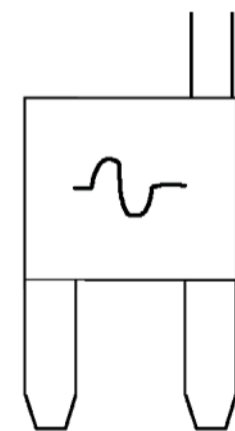
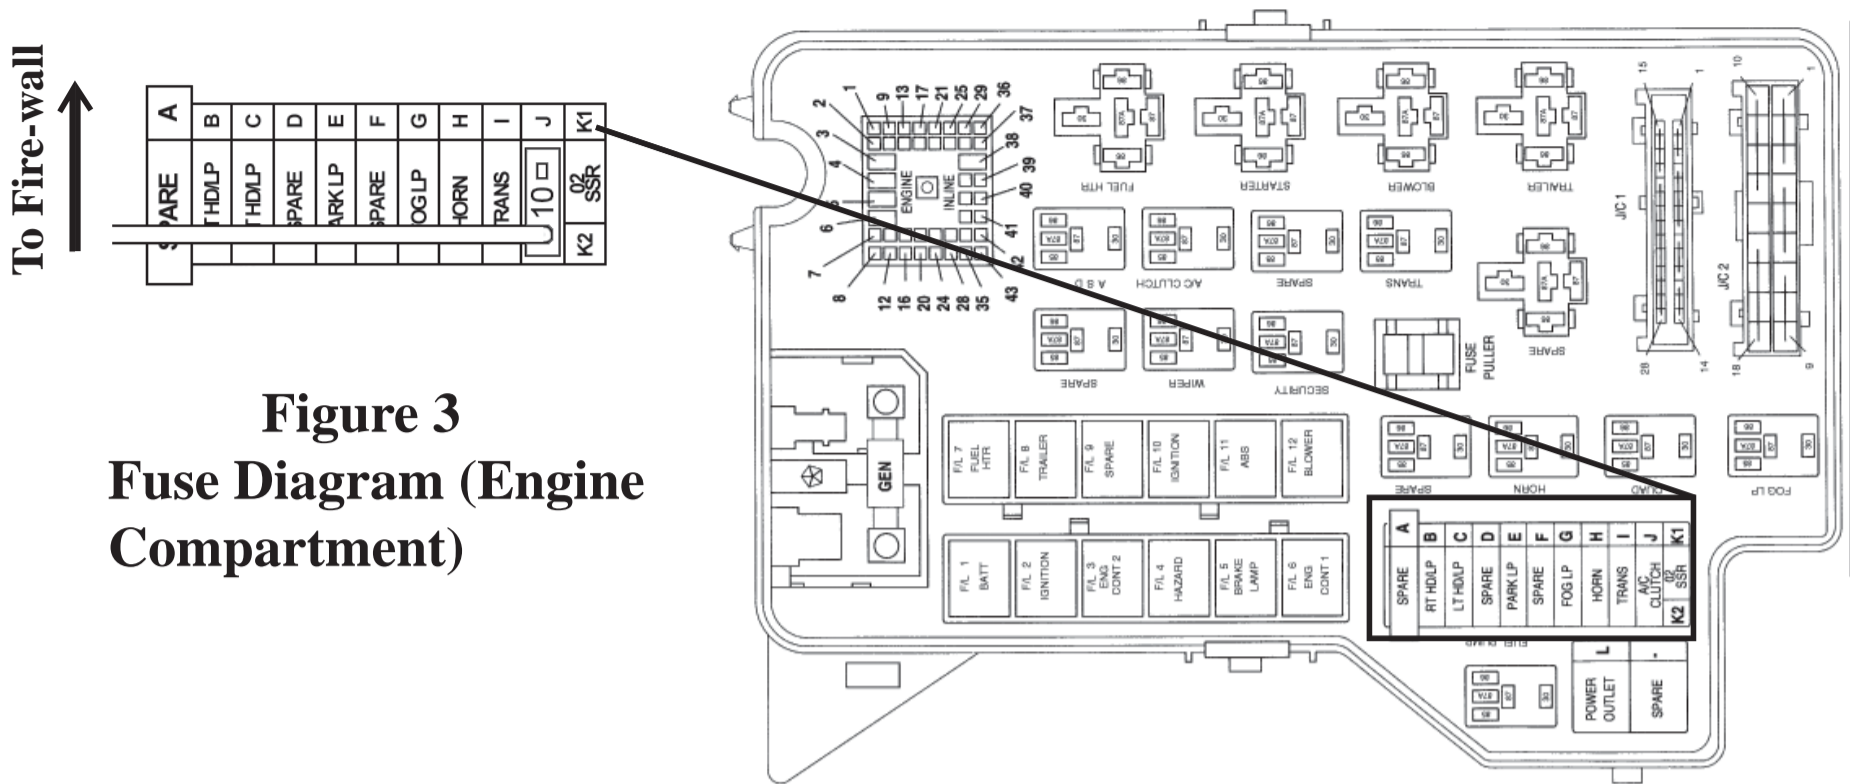
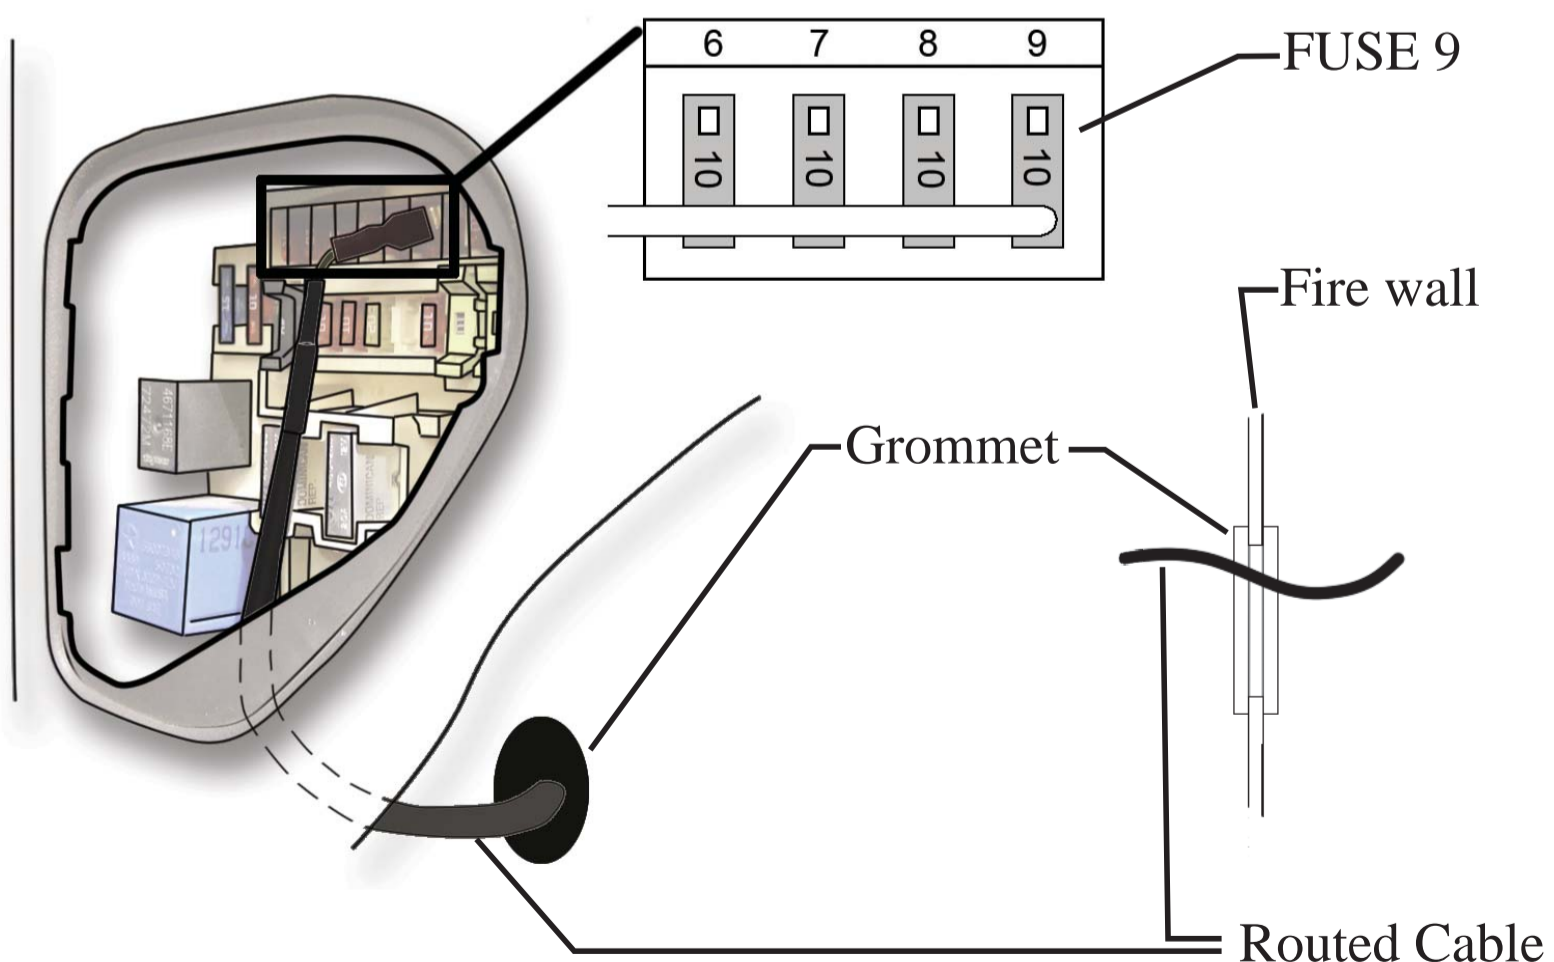

Figure 2
Figure 3
Figure 4 - Driver Side Fuse Panel
4. Insert the Leaded Fuse link (see Figure 2). The leg with the wire soldered to it needs to plug into the "HOT" side of the fuse location. Orient the fuse exactly as shown in Figure 3 on the following page.
5. From the main harness, connect the Red Constant Power Connector to the installed Fuse Link (Figure 3)
4. Insert the Leaded Fuse link (see Figure 2). The leg with the wire soldered to it needs to plug into the "HOT" side of the fuse location. Orient the fuse exactly as shown in Figure 4 below.